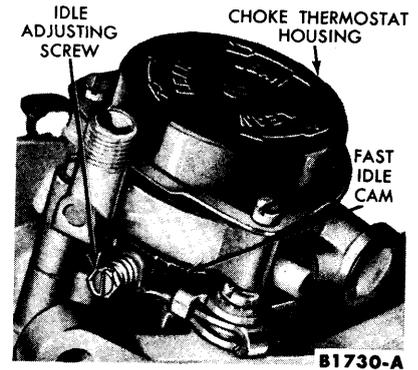

FIG. 7—Fast Idle Speed Adjustment
3. Set the fast idle speed (cold) with the engine at normal operating temperature. Align the high step on the fast idle cam with the adjusting screw (Fig. 7). Turn the screw in-
Automatic Choke Adjustment. The automatic choke has an adjustment to control its reaction to engine temperature. By loosening the three screws that retain the choke thermostat housing (Fig.7), it can be turned to alter the thermostatic spring adjustment. Turning the housing in a counterclockwise direction provides a richer mixture, and conversely a leaner mixture is obtained by turning the housing in a clockwise direction as indicated by the arrows on the housing. Refer to the specifications for the proper setting